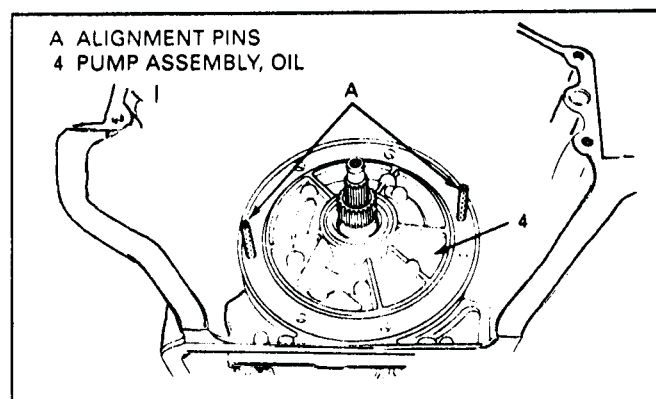

Figure 144
5. Install the complete oil pump assembly into the transmission case using the alignment dowels as shown Figure 144.
2. Install alignment dowels into the transmission case as shown in Figure 144.